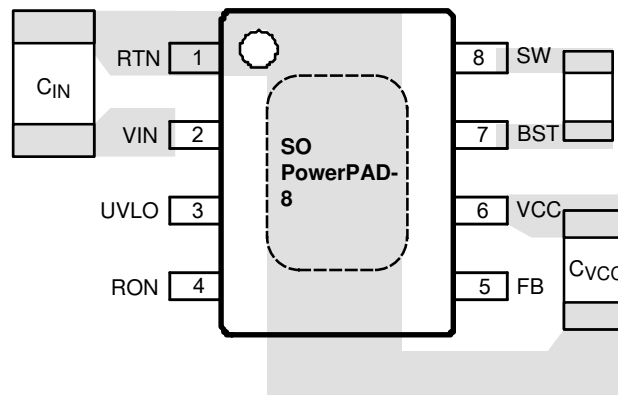

图 10-1. Placement of Bypass Capacitors
1. C_{IN} : The loop consisting of input capacitor (C_{IN}), V_{IN} pin, and RTN pin carries switching currents. Therefore, the input capacitor should be placed close to the IC, directly across V_{IN} and RTN pins and the connections to these two pins should be direct to minimize the loop area. In general it is not possible to accommodate all of input capacitance near the IC. A good practice is to use a 0.1- μ F or 0.47- μ F capacitor directly across the V_{IN} and RTN pins close to the IC, and the remaining bulk capacitor as close as possible (see 图 10-1).
2. C_{VCC} and C_{BST} : The V_{CC} and bootstrap (BST) bypass capacitors supply switching currents to the high and low side gate drivers. These two capacitors should also be placed as close to the IC as possible, and the connecting trace length and loop area should be minimized (see 图 10-1).